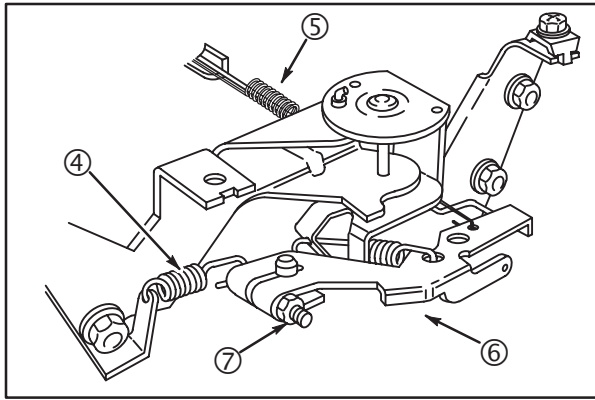

Fig. 13
5. Reassemble governor lever (6) to shaft, **Fig. 13**.
- a. Reassemble governor link and spring (5) at carburetor.
- b. Reassemble governed idle spring (4).